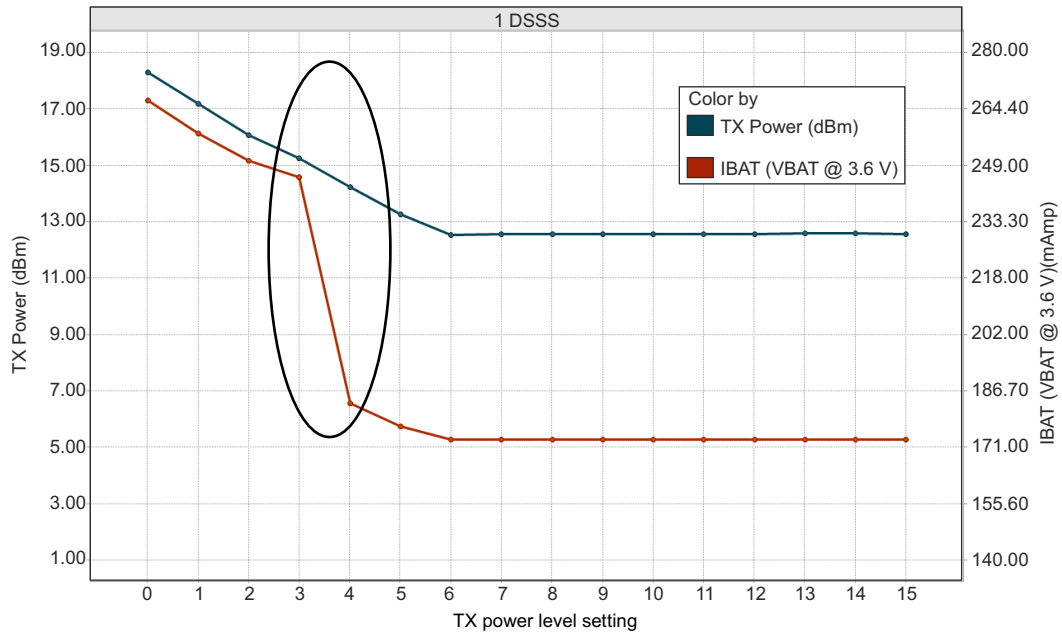
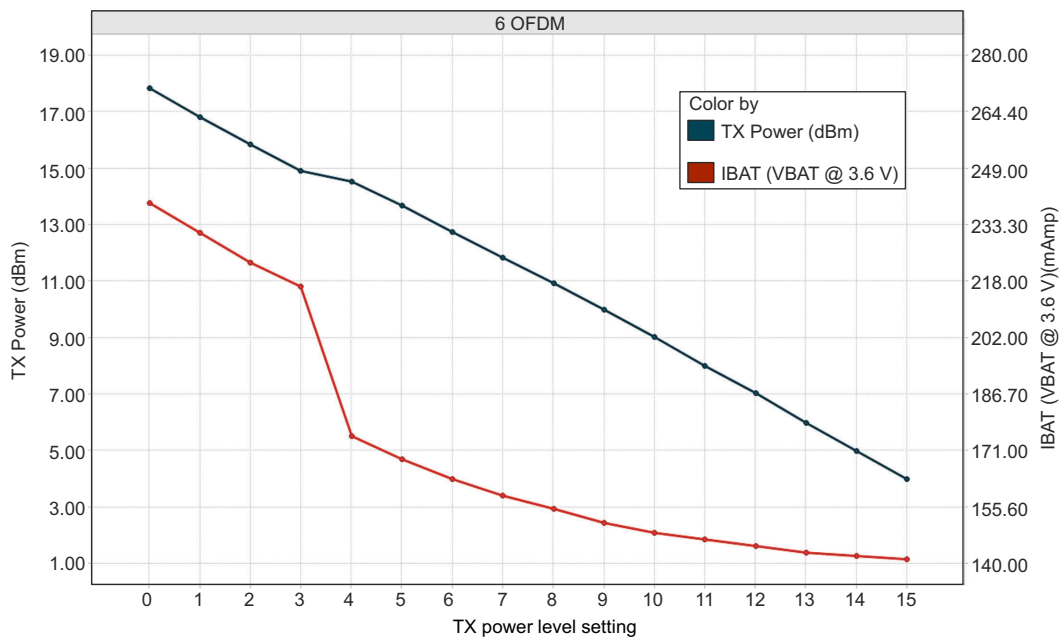
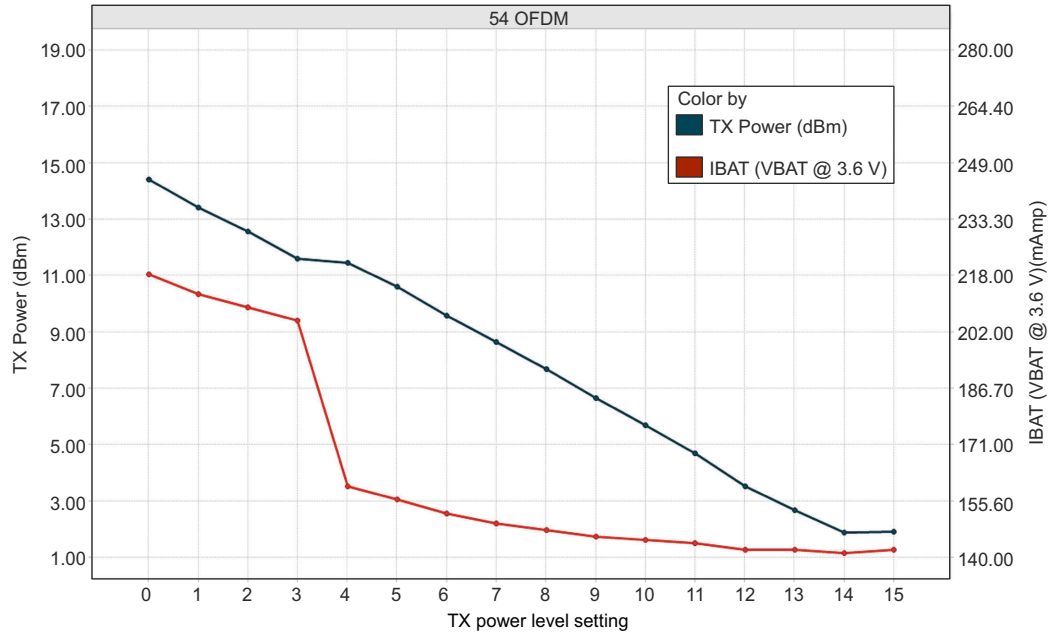

图 8-1. TX Power and IBAT vs TX Power Level Settings (1 DSSS)
图 8-2. TX Power and IBAT vs TX Power Level Settings (6 OFDM)
图 8-3. TX Power and IBAT vs TX Power Level Settings (54 OFDM)
- (1) TX power level = 0 implies maximum power (see 图 8-1, 图 8-2, and 图 8-3). TX power level = 4 implies output power backed off approximately 4 dB.
- (2) LPDS current does not include the external serial flash. The LPDS number of reported is with retention of 256KB of MCU SRAM. The CC3230x device can be configured to retain 0KB, 64KB, 128KB, 192KB, or 256KB of SRAM in LPDS. Each 64-KB block of MCU retained SRAM increases LPDS current by 4 μA.
- (3) DTIM = 1
- (4) The complete calibration can take up to 17 mJ of energy from the battery over a time of 24 ms. In default mode, calibration is performed sparingly, and typically occurs when re-enabling the NWP and when the temperature has changed by more than 20°C. There are two additional calibration modes that may be used to reduced or completely eliminate the calibration event. For further details, see *CC31xx, CC32xx SimpleLink™ Wi-Fi® and IoT Network Processor Programmer's Guide*.
- (5) The CC3230x system is a constant power-source system. The active current numbers scale based on the V_{BAT} voltage supplied.
- (6) Typical numbers assume a VSWR of 1.5:1.
- (2) LPDS current does not include the external serial flash. The LPDS number of reported is with retention of 256KB of MCU SRAM. The CC3230x device can be configured to retain 0KB, 64KB, 128KB, 192KB, or 256KB of SRAM in LPDS. Each 64-KB block of MCU retained SRAM increases LPDS current by 4 µA.
- (4) The complete calibration can take up to 17 mJ of energy from the battery over a period of 24 ms. Calibration is performed sparingly, typically when coming out of HIBERNATE and only if temperature has changed by more than 20°C. The calibration event can be controlled by a configuration file in the serial flash.
- (5) Typical numbers assume a VSWR of 1.5:1.
图 8-1, 图 8-2, and 图 8-3 show TX power and IBAT versus TX power level settings for the CC3230S device at modulations of 1 DSSS, 6 OFDM, and 54 OFDM, respectively. For the CC3230SF device, the IBAT current has an increase of approximately 10 mA to 15 mA depending on the transmitted rate. The TX power level will remain the same.
In 图 8-1, the area enclosed in the circle represents a significant reduction in current during transition from TX power level 3 to level 4. In the case of lower range requirements (14-dBm output power), TI recommends using TX power level 4 to reduce the current.